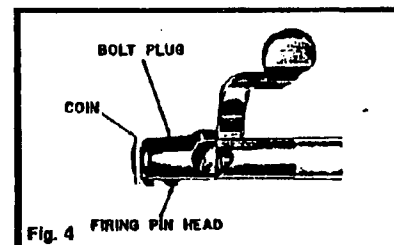

Fig. 4
**CLEANING AND CARE** - Caution: Before cleaning make sure there is no cartridge in the barrel chamber. Cleaning of barrel or bolt is more easily done with bolt removed. To remove bolt, push down on front of bolt release with a small, flat key or screwdriver. Bolt release is located in rear of bolt channel in receiver. (Fig. 3) Withdraw bolt from receiver. When cleaning barrel use light oil, soft cloth. Clean from breech to muzzle. Scrub barrel bore and cartridge chamber with a good solvent, if necessary. Wipe dry and re-oil and chamber very lightly. Clean bolt or bolt handle with a good petroleum solvent. Brush bolt face and chamber shooting residue. Re-oil lightly and lubricate surfaces on bolt to prevent wear. If necessary to disassemble firing pin assembly, pull firing pin head back until coin or similar piece can be inserted in slot near edge of firing pin head (Fig. 4). Hold bolt handle and turn bolt plug until firing pin assembly be removed from bolt. Clean, re-oil lightly and reassemble in reverse. Removal of stock is not recommended unless for replacement of fore-end weights. See exploded view.